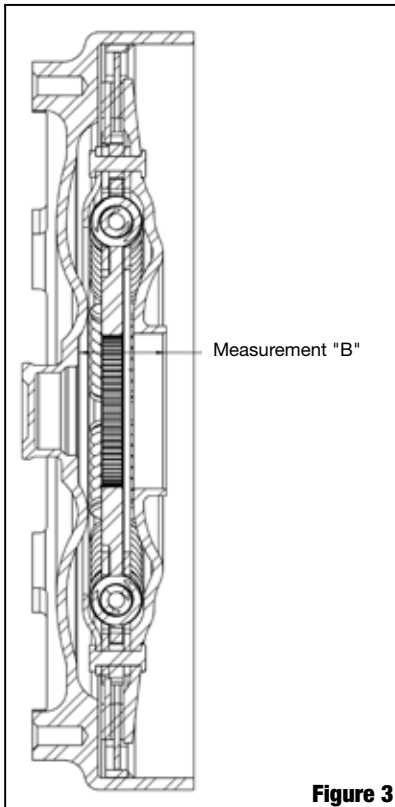

Figure 3
14. Then place the clutch plates and piston into the front cover (**Figure 3 on page three**). Measure from the inner lip of the piston to the thrust face of the front cover ("**B**" measurement in **Figure 3**).